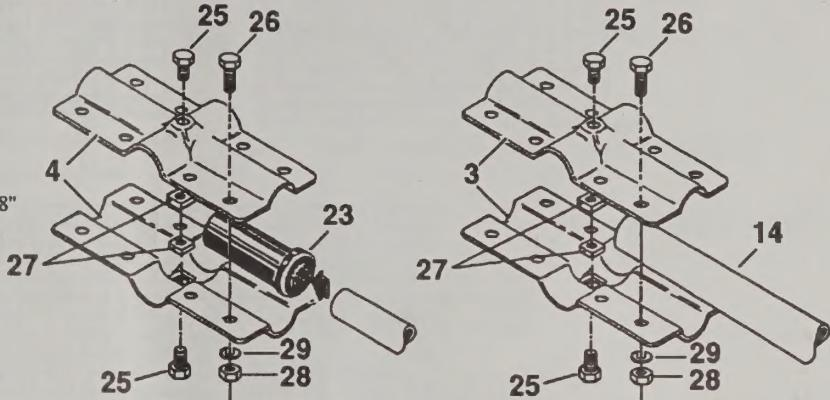
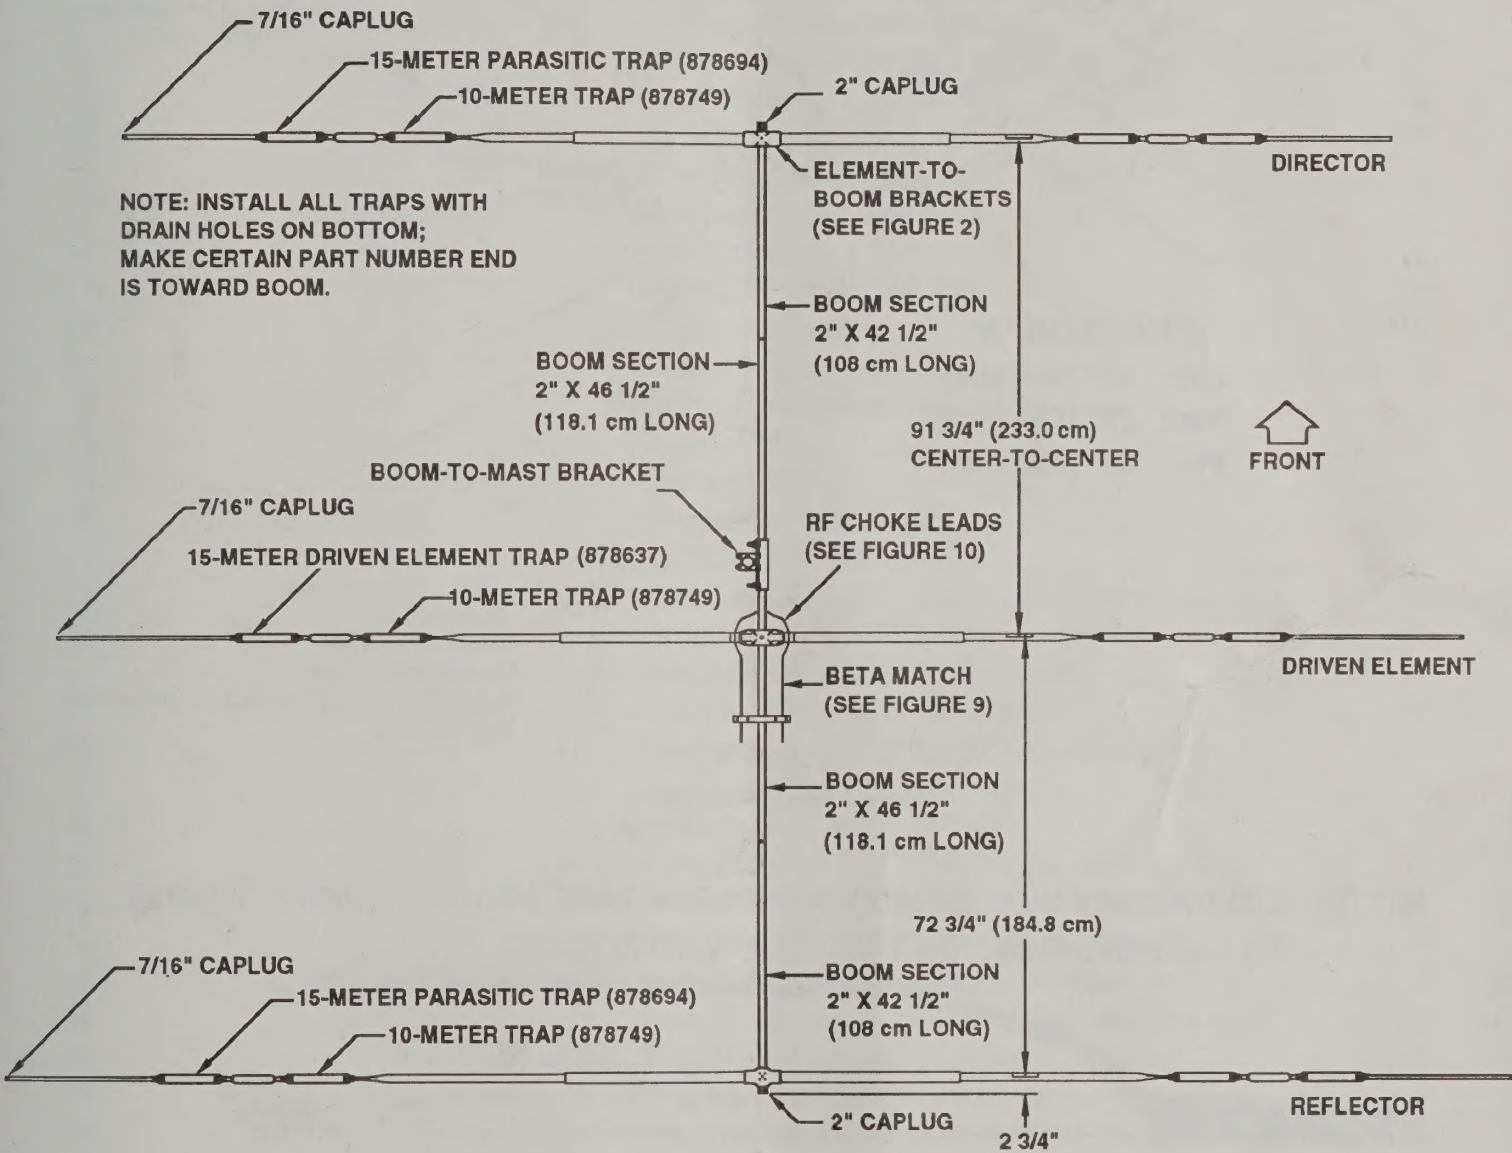

Figure 2
Figure 8
Assemble the brackets as shown in Figure 2 and position them on the boom as shown in Figure 8. It is easier to assemble the brackets on the boom at the correct location, rather than try to slide them on the boom. If you are going to leave this assembly unattended for more than 15 minutes, we suggest that you tighten the eight (8) bolts on each bracket, so that they do not vibrate off. Do not tighten the two (2) anchor bolts (Item 25) until the elements are installed and aligned.
Select each completed element assembly and install each into the appropriate element-to-boom bracket. Refer to the Overall View in Figure 8. Tighten the eight (8) 1/4"-20 x 3/4" bolts on each bracket until it is difficult to rotate the bracket on the boom. Make sure the anchor bolts in the center of each bracket are still loose at this point.